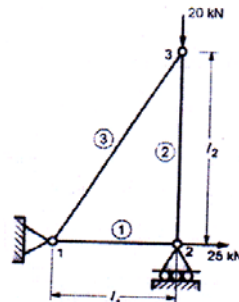

Fig.3
- Q3)** a) A three bar truss is subjected to loading, as shown in fig. 3 The modulus of elasticity for bar material is $300 \times 10^3 \text{ N/mm}^2$. The cross sectional area of each bar used for truss is 60 mm^2 . If the length of the horizontal and vertical bars are 100 mm and 750 mm respectively, determine :**[14]**